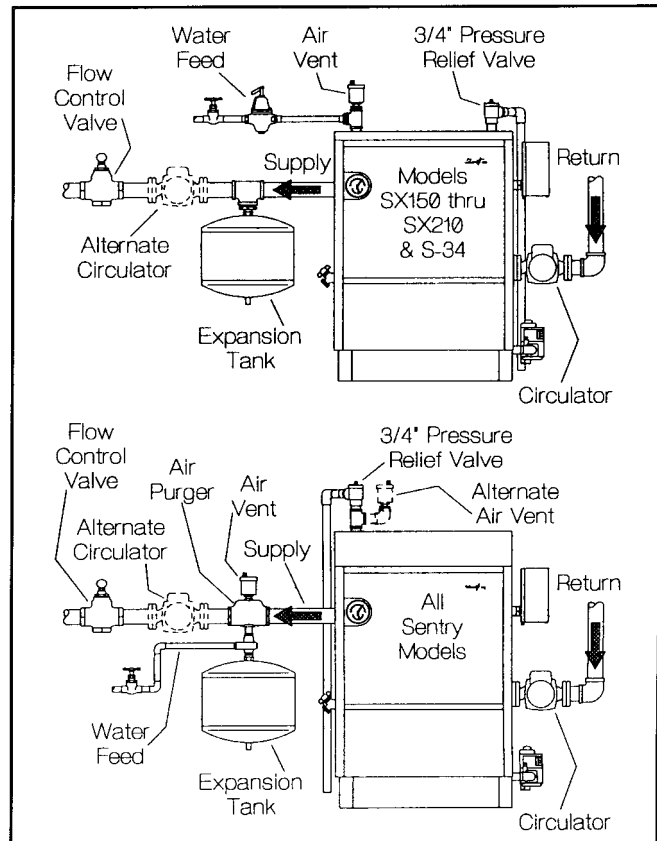

Figure 10. Piping Arrangement
- A. Packaged water boilers are equipped with a water circulating pump, mounted to return the water into the boiler. For some installations, the pump should be on the supply main. See figure 10.
- A. **DIAPHRAGM-TYPE COMPRESSION TANKS** are used to control system pressure in an **AIR ELIMINATING SYSTEM**: an automatic air vent is used to **REMOVE** air from the system water. See figure 10. If system pressure needs further control, add an additional tank or install a larger capacity tank. Locate the tank near the boiler, as illustrated. An automatic air vent should be installed in the top of the boiler or air purger. See figure 10.